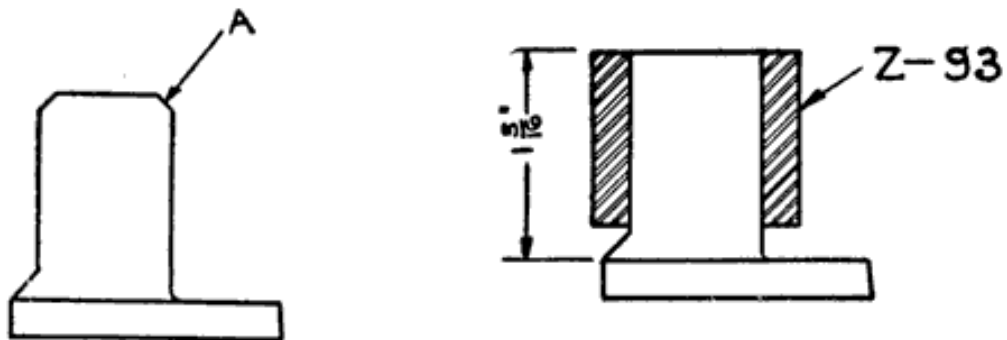

Fig. 281. Willard Post-Builder Z-93, and Built-Up Post
4. In reassembling, build the post up to a height of $1\frac{5}{16}$ inches above the top of the plate strap, using Willard post builder Z-93 (Fig. 281).
5. After removing the post builder, bevel the top edge of the post with a file, as indicated at "A" (Fig. 281). Then replace plates in the jars.